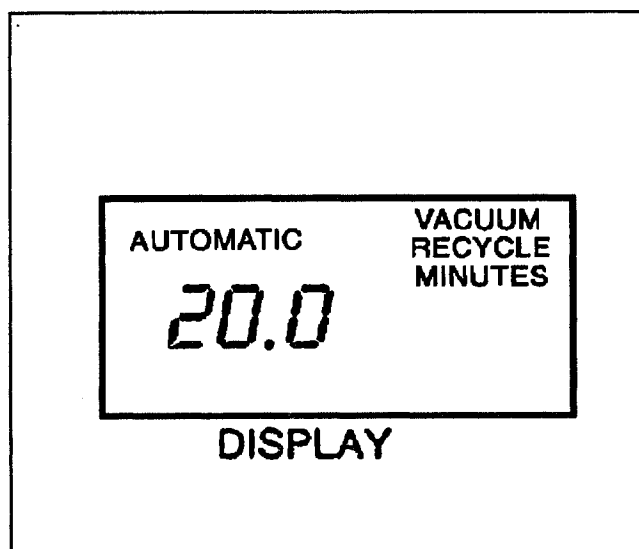

Figure 21—Press Keys to Enter Evacuation Time
- To remove all the air and properly dry the A/C system, the unit automatically goes to a minimum evacuation time of 20 minutes. It is possible to evacuate longer than 20 minutes. Press keys to enter time desired. New entry will show on the display. Press "ENTER" and the display will blink indicating input of data (Figure 21).